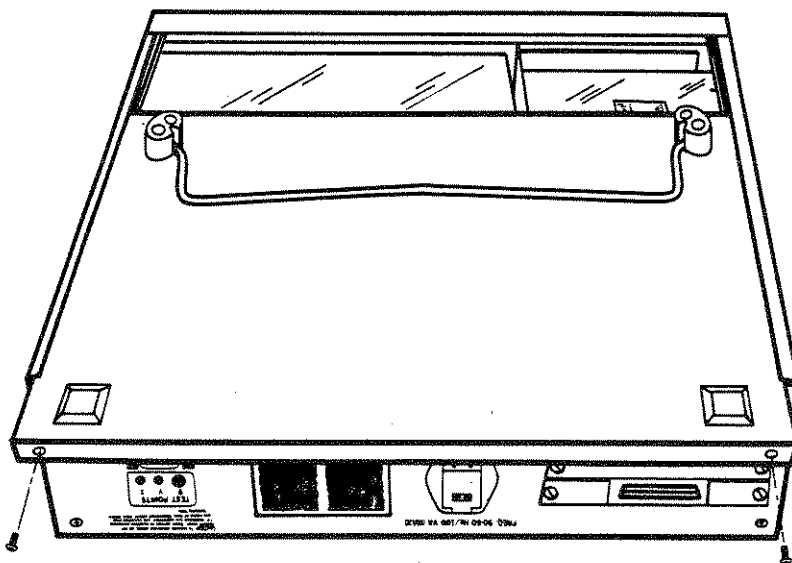

Figure 7-9. Removing the Bottom Cover
STEP 2. Lay the 5300 on its top cover. Remove the two screws that secure the bottom cover to the 5300. Slide the cover back to remove it from the instrument. Refer to Figure 7-9.